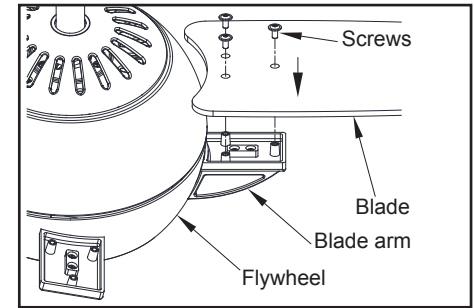

Figure 12
1. Align the three screw holes in the blade with the screw holes in the blade arm and secure with the screws provided. (Figure 12)